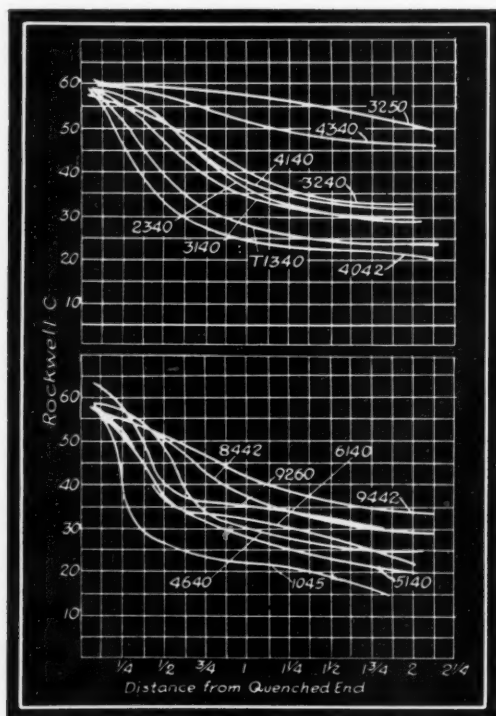
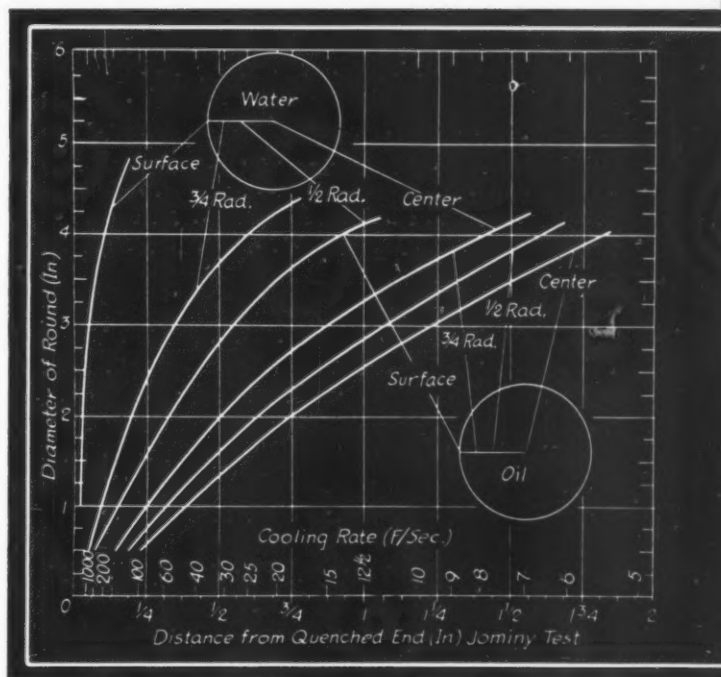
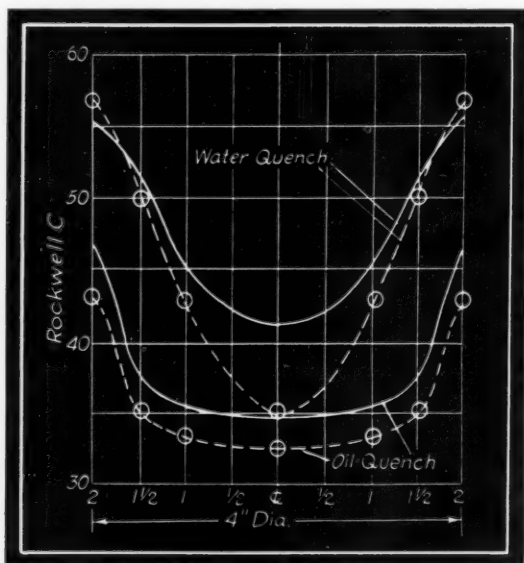

Fig. 108—Jominy end-quench tests on a number of .40 carbon alloy steels
Fig. 109—Jominy distances that have same cooling rate as various sizes of round bars for oil and water quenches
Fig. 110—Calculated hardness traverses of SAE 3240, shown dotted, compared with actual traverse, solid lines
In Fig. 108 are Jominy end-quench curves for most of the steels given in the chart. These data have been taken from (17), (18) and (19), and compared with other data where available. On the whole, surprisingly good agreement was found, particularly with the work of later investigators. An idea of the variations to be anticipated from one heat to another is given in (18) and (20), the effect of varying the heating temperature and holding time in (11), and curves of end-quench bars drawn back at various temperatures in (12).
The chart of Fig. 45\* will permit of determining the rockwell value from the Jominy test and the cooling rate. For example, if it is known that at a given point the quenching practice will give a cooling rate of 18 degrees per second, from Fig. 45 this cooling rate exists at a Jominy of  $\frac{3}{4}$ -inch. If NE 8442 is used for this part the rockwell at the point in question, from Fig. 108, would be C42 as quenched, and if it were NE 9442 it would be C47.
Cooling rates at several points in rounds and the corresponding Jominy distance are given in Fig. 109. Approximate hardness traverses, similar to Figs. 103 $\frac{1}{2}$ , 111 and 112, may be obtained from this figure as has been done for SAE 3240 in Fig. 110. From Fig. 109 the Jominy distance for the center of a 4-inch round, oil-quenched, is 1  $\frac{13}{16}$  and, from Fig. 108, SAE 3240 will have a rockwell of C33 at this distance. Midradius values are  $\frac{1}{8}$  inches and C44;  $\frac{3}{4}$  radius, 1 $\frac{1}{2}$  and C35; and at the surface  $\frac{7}{8}$ -inch and C43. In similar fashion the water-quench curve was obtained. The solid curves have been taken from (5). Lower values of the derived curves are indicative of the conservativeness of the data presented here. As previously stated, actual results will vary with grain size, alloy variations, and heating and quenching.
Nickel in the amounts generally used contributes a marked increase in hardenability, as disclosed in the table previously discussed, and the Jominy curves of Fig. 108. It has some value in resisting grain growth, the effect being not nearly as great as that of the carbide-forming elements. Like most alloys it reduces also the carbon content necessary for the eutectoid. Nickel also imparts some resistance to atmospheric corrosion.